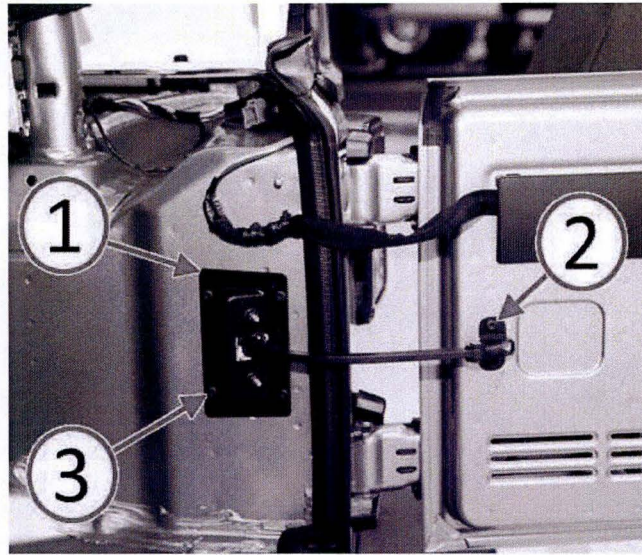

Fig. 6 Tailgate Retaining Strap
8. Remove the two retaining strap to tailgate fasteners (2) and four retaining strap to body fasteners (3) then remove the tailgate retaining strap (1) from the vehicle (Fig. 6).
9. Install the new tailgate retaining strap (Fig. 6).